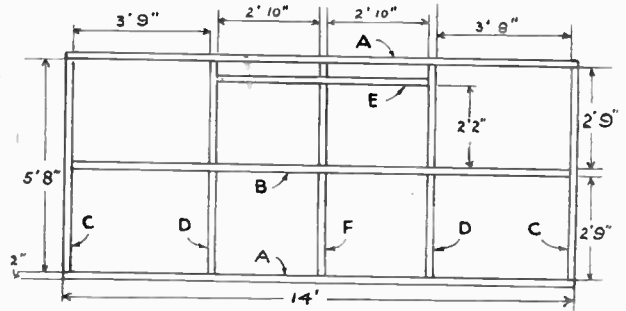

Fig. 7—Position of pieces forming side section
The two side sections are identical. The position of the pieces are shown in Fig. 7. Half joints are used where the scantlings cross inside the frame. These are simple to make and need no explanation. Measure each piece very carefully, and cut to length. The five pieces (D) two off, (B), (E) and (F), should be marked out for the half joints, using a marking gauge and square. Finally cut the two 14ft. lengths to size and drill each end for the nails.